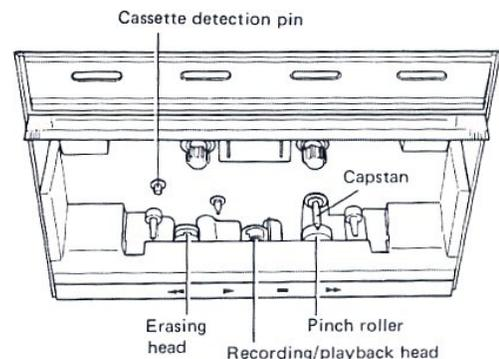

Fig. 13
The head section is composed of the heads, capstan, pinch roller (see Fig. 13), and with extensive use these parts accumulate dust, dirt and grease easily. If this assembly gets dirty, the contact between the tape and the surfaces of the heads is impaired, and this downgrades the sound quality and the stereo balance, and also leads to unstable operation. To prevent this, clean the head section and the surrounding parts regularly with the accessory cleaning swab or with a soft cloth dipped in the accessory cleaning fluid.
**Head cleaning steps (Fig. 13)**